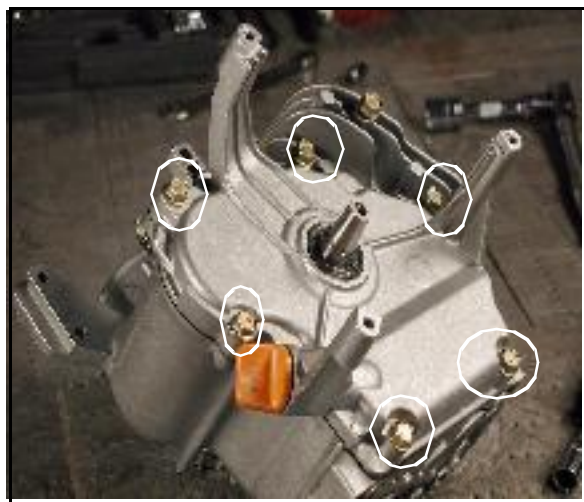

Fig. 1
2. Remove the cover or sump bolts (Fig. 1).